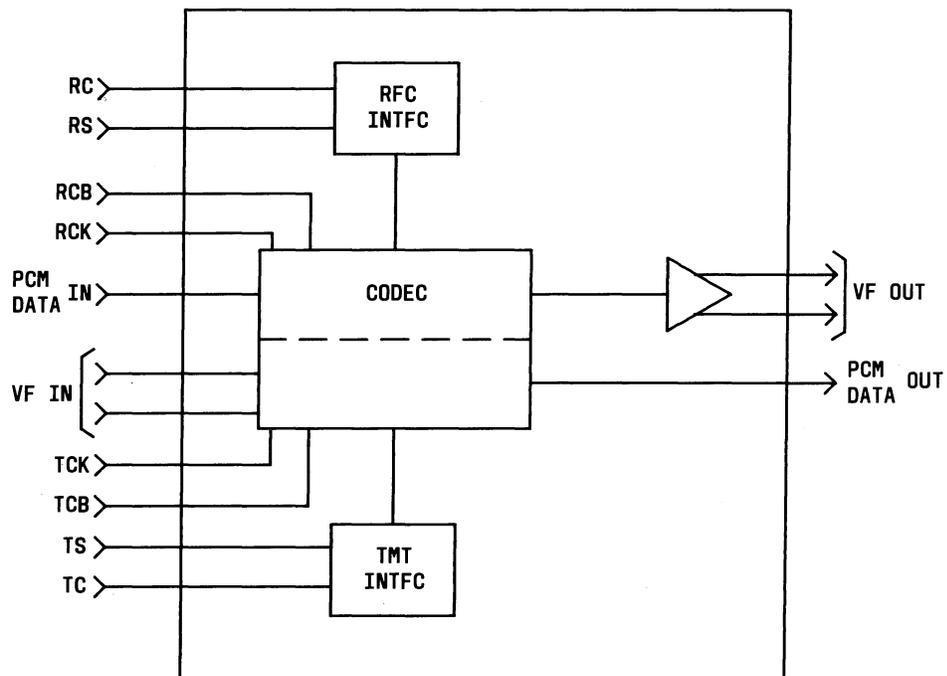

Fig. 1—210A Module—Voice Frequency Coder/Decoder
The 210A module (Fig. 1) provides encoding and decoding between voice frequency and digital 64-kb/s PCM (pulse-coded modulation). It has a 4-kHz bandwidth (VF), a standard input level of -16 dBm, and a standard output level of $+7$ dBm.